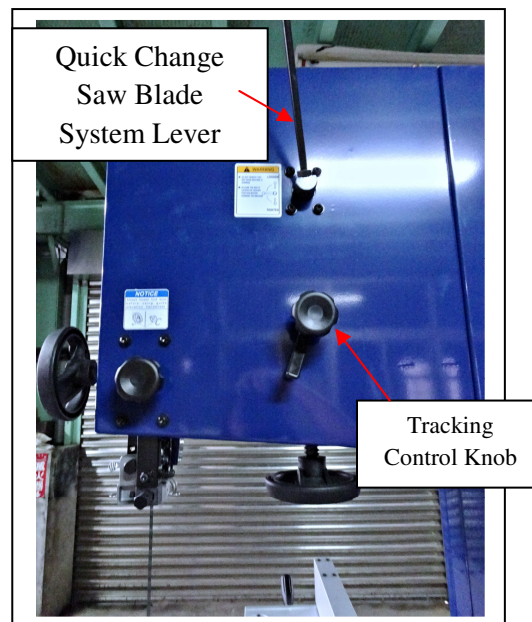

Figure 7
5. Loosen quick change saw blade system lever on rear of bandsaw.(see Figure 7)
7. Replace blade in the MIDDLE of the upper and lower wheel. If the blade is not in the right position, you must relax the fixed handle and adjust the tracking control knob.(see Figure 7)